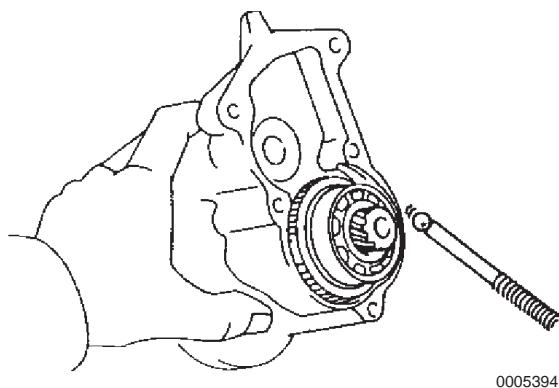

Figure 10-7
5. Remove the steel ball through the clutch shaft hole using a magnet (Figure 10-7).